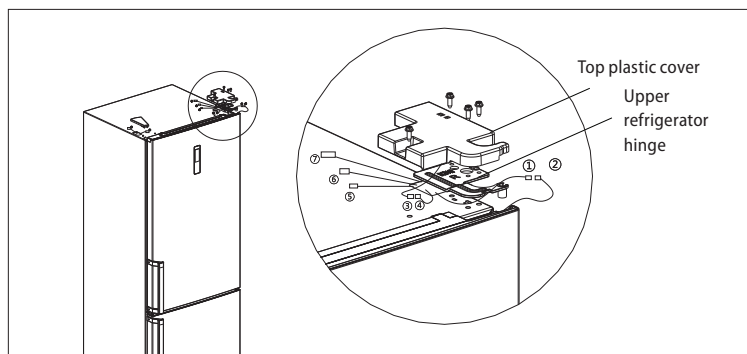

Fig. 1
3. Remove the upper plastic cover and the upper hinge of the refrigerator (Fig. 1) and disconnect the connector 1 + 2 and 3 + 4, which is located at the upper hinge of the refrigerator (Fig. 1). Then connect connectors 1 + 5 and 4 + 6. Remove the refrigerator door and place it in a safe place.